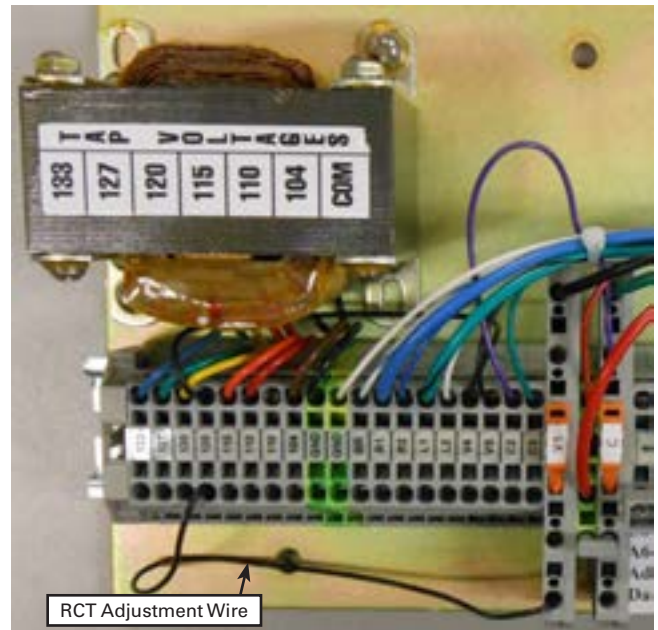

Figure 3-2. Ratio correction transformer showing wire for voltage adjustment.
- C. On the back panel, Open the V1 and V6 (if present) switches and close the C switch (see Figure 3-2).
- A. Standard Short Back Panel – Move the single black wire connected below TB3 to the correct RCT connection point (see figure 3-2)